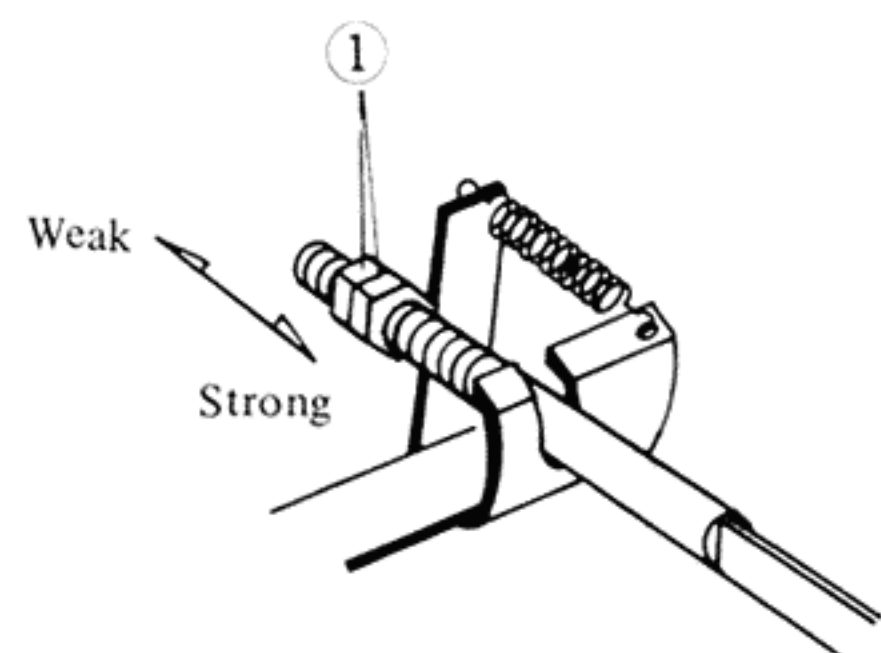

Fig. 19
3. Pinch roller pressure (Fig. 19)
Adjust to within 1.5~2.0 kg. Excessive pressure will cause poor operation. Adjust with nut ① shown in Fig. 19.